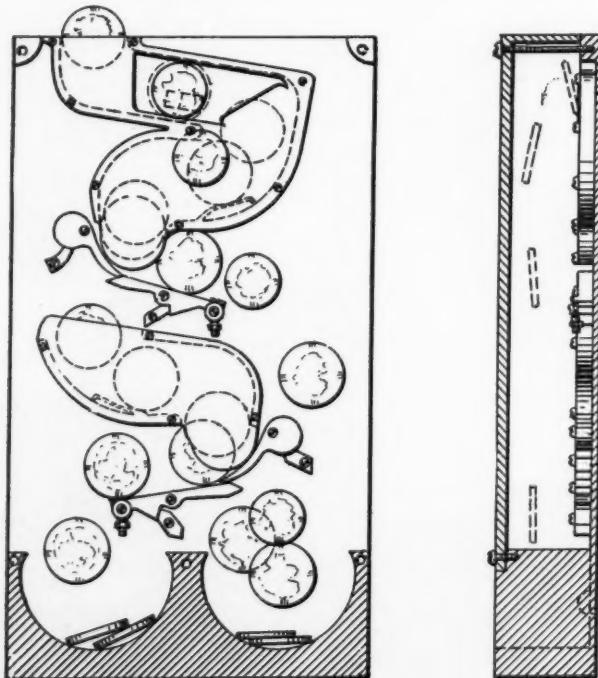

Fig. 2—Adapted to telephone pay stations, tortuous coin chute prevents operations by slugs
**D**EVELOPMENT of coin-operated devices almost invariably brings up the problem of prevention of operation through use of slugs. A vast amount of thought and ingenuity has been expended upon this subject and a wide variety of devices—mechanical, electrical, pneumatic and magnetic—have been devised. The one shown by *Fig. 2* has been invented by Theodore Bibicos of Cleveland, O., with the needs of telephone pay stations particularly in mind. His design is covered by patent No. 2,118,425.